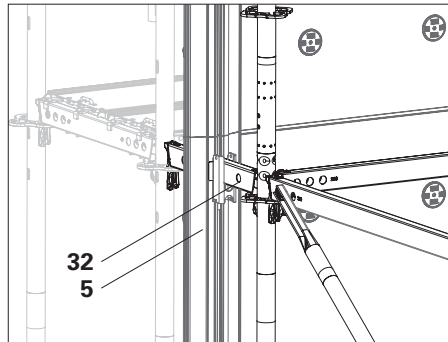
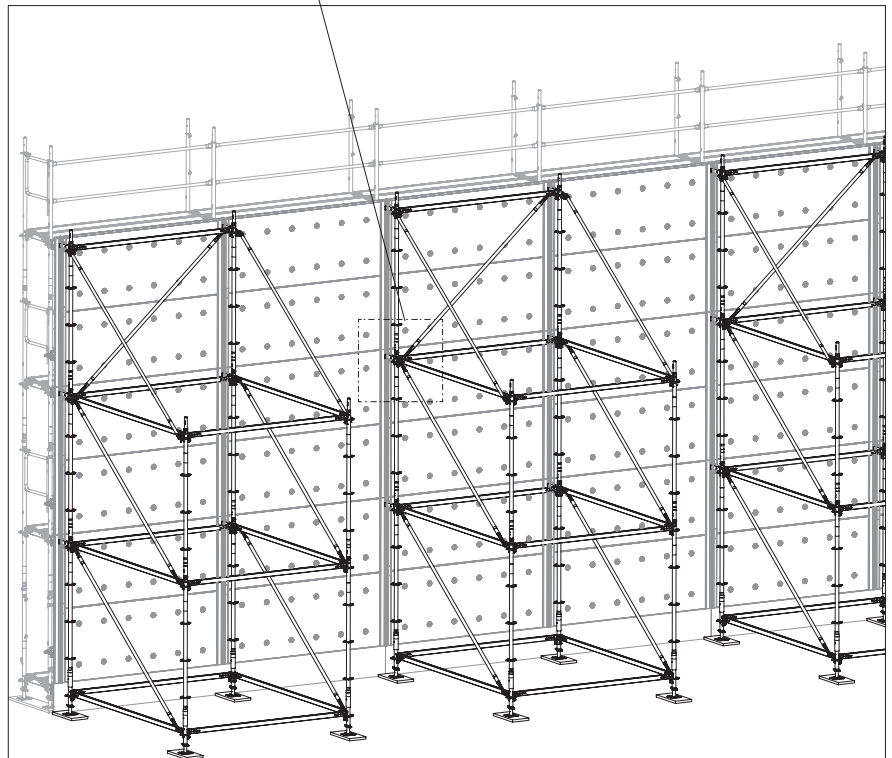

Fig. D2.01a
Fig. D2.01
For base scaffolds that cannot be anchored, external scaffold support can be assembled with PERI UP Cladding. To do this, mount the Support Rails CVR (5) instead of Support Rails CVR. Connect the scaffold support with Support UC 25 (32). (Fig. D2.01 + Fig. D2.01a)